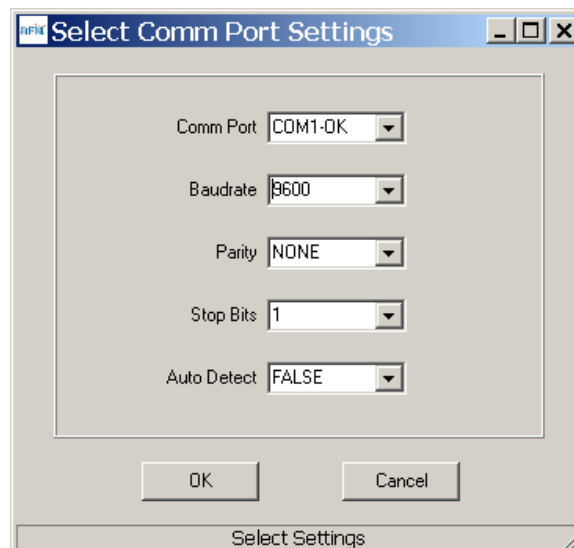

Figure 6
8. Click on *Connect* to open the *Select Comm Port Settings* dialog box (Figure 6). If necessary, set the baud rate to 9600 bps. Set the *CommPort* to match the serial port connected to the Base, either the hardware port or the USB virtual serial port. Then click OK to activate the serial connection.